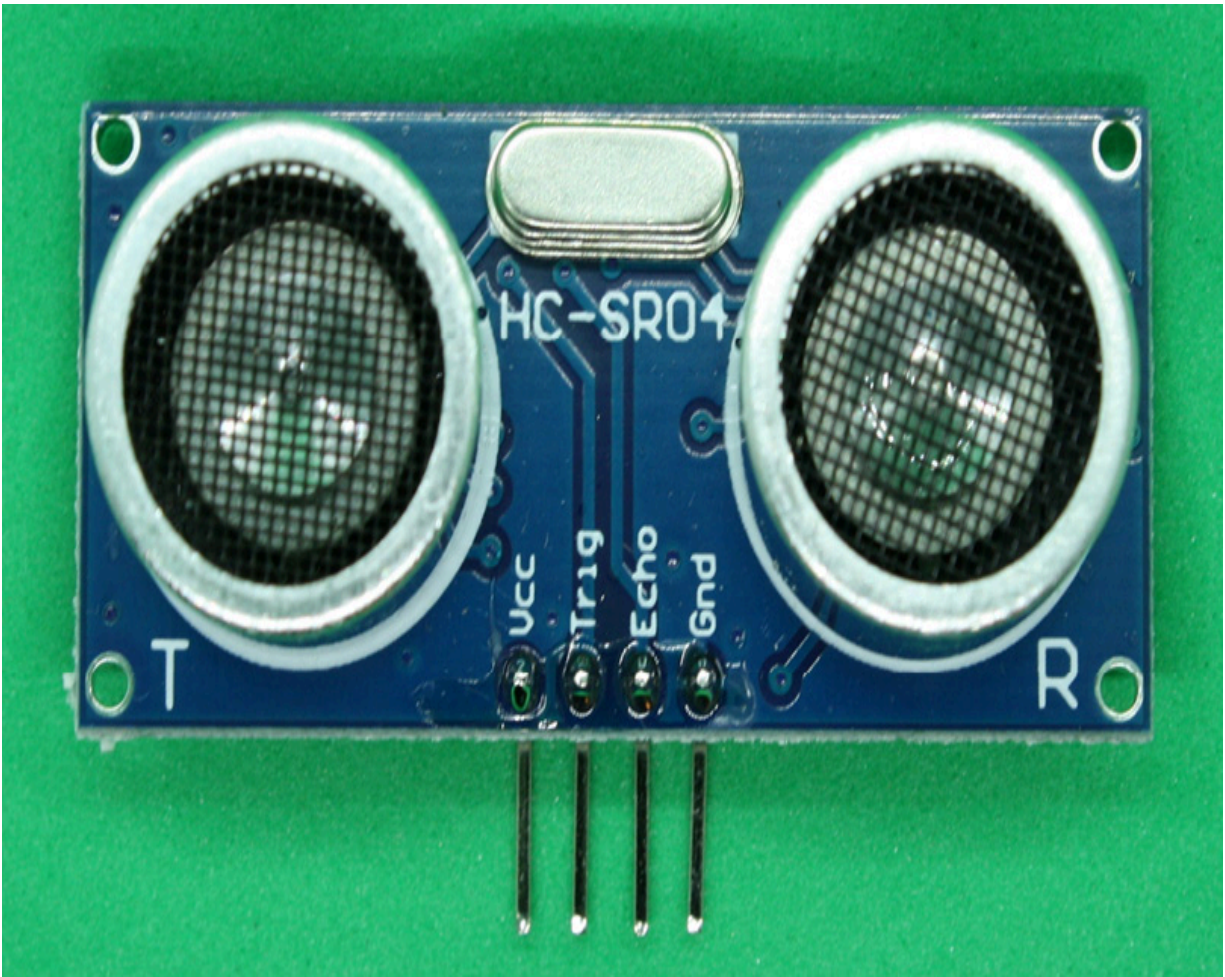
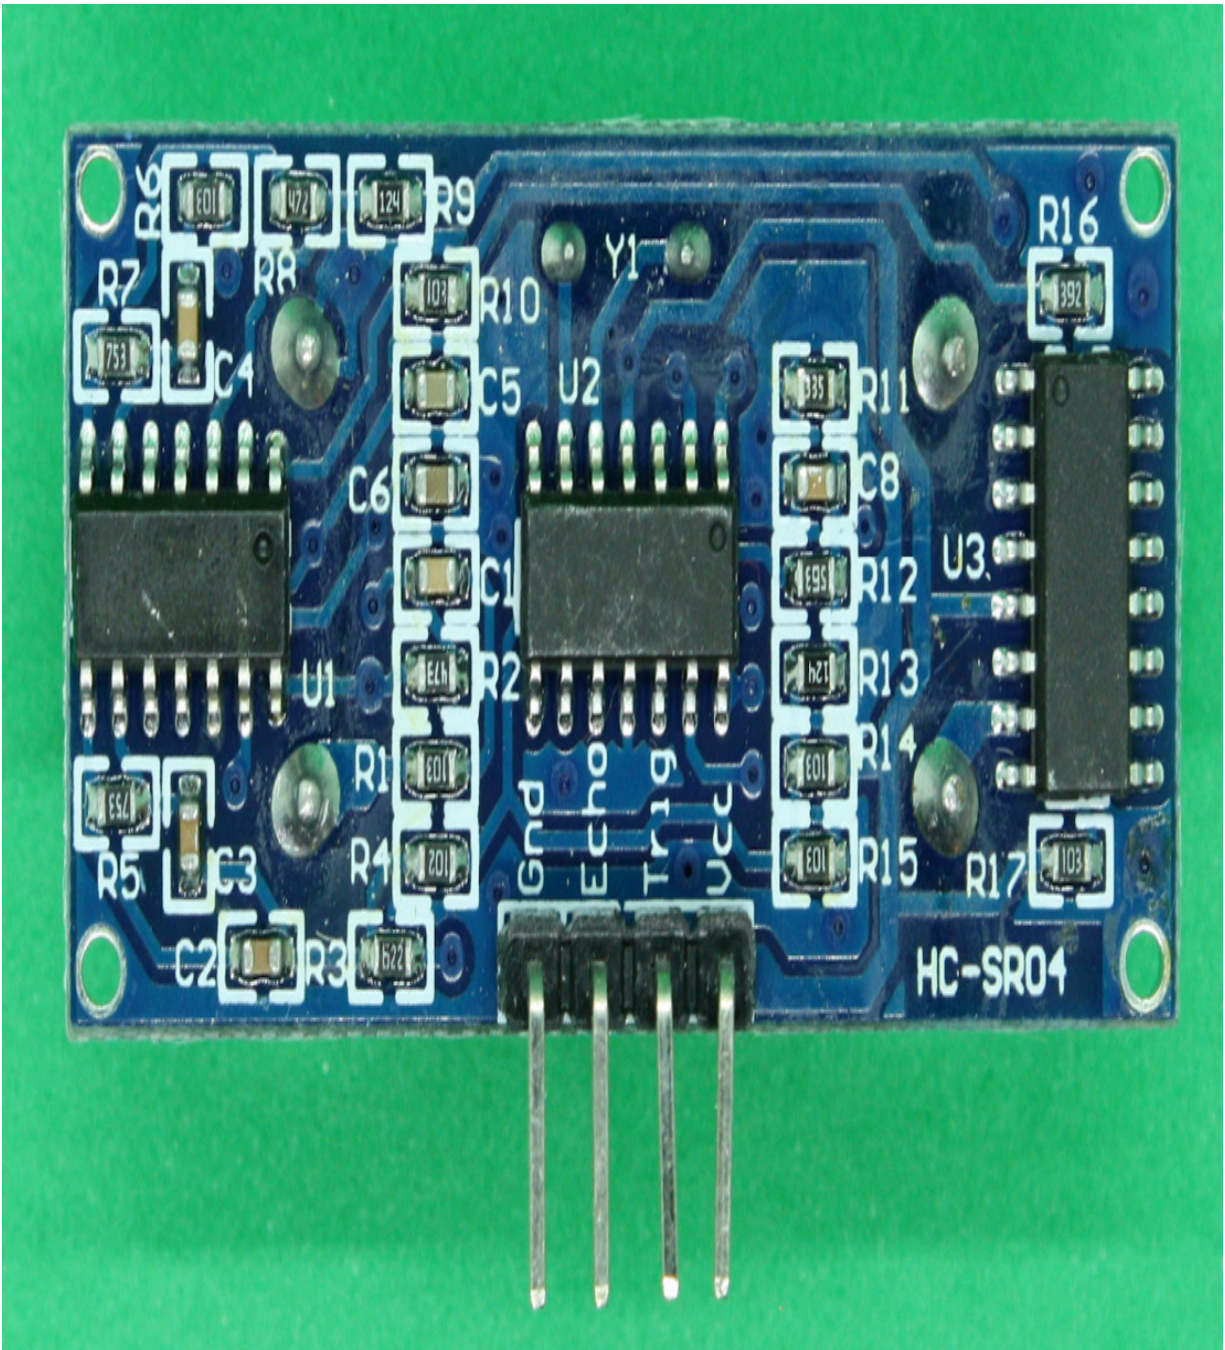

Figure 14.4 – The HC-SR04 ultrasonic sensor
Figure 14.5 – The back side of the HC-SR04 sensor
*Figure 14.4* shows the HC-SR04 ultrasonic sensor used in this chapter:
From *Figure 14.4*, you can see that the sensor has two speaker-like components. One of them is actually a small speaker emitting ultrasonic sound signals and the other one is a microphone that captures those signals back after they bounce on an object. *Figure 14.5* shows the back of the HC-SR04 ultrasonic sensor:
As you can see from *Figure 14.5*, the back of the sensor contains electronic components such as resistors, transistors, and integrated circuits that support the generation and reception of ultrasonic signals.